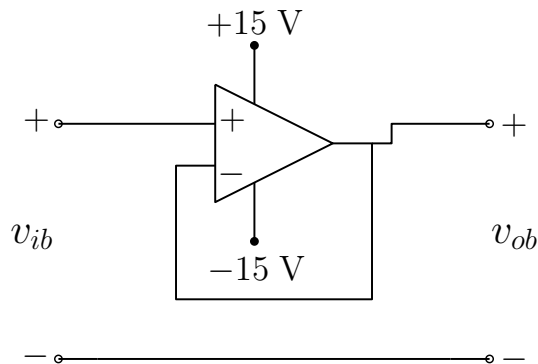

Figure 6.2: The voltage follower (buffer) stage.
4. To prevent this loading from occurring we can build a voltage follower and use it to isolate the two stages of your circuit. To do this, build the circuit shown in Figure 6.2 and connect v_{o1} to v_{ib} and v_{ob} to v_{i2} . Measure v_{o1} and v_{o2} and explain how the voltage follower succeeds in eliminating (or at least reducing) the loading effects. What have you just made and why might this be useful? [LR 3]